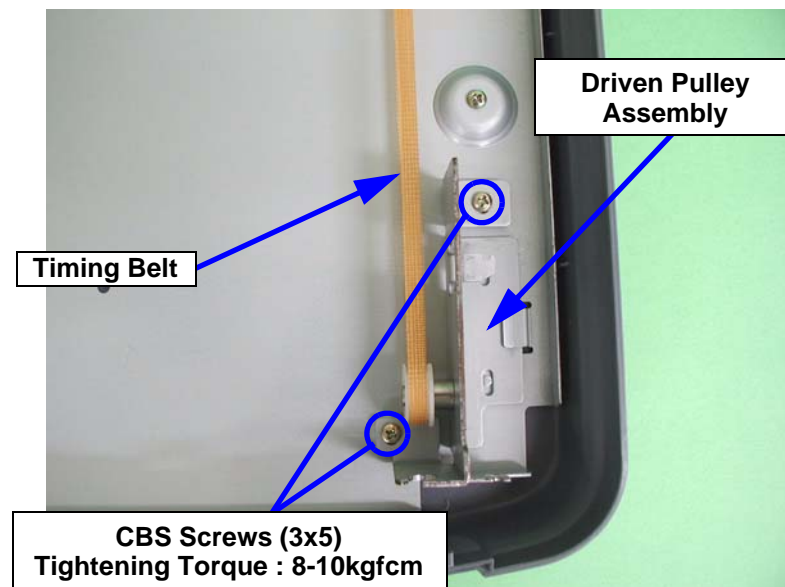

Figure 4-21. Driven Pulley Assembly Removal (1)
5. Remove the two screws (CBS, M3x5). (See Figure 4-21)